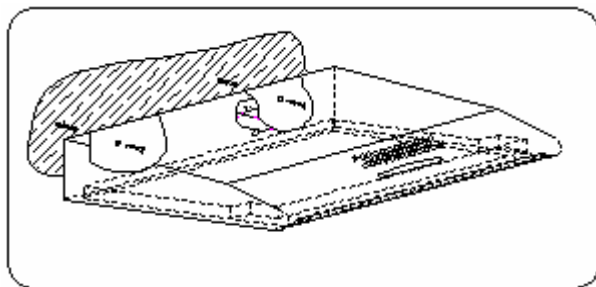

Fig. 3
c) drill the holes as marked on the wall, using drills of diameter corresponding to the attached expansion plugs, drive the plugs in and then screw the hood body „A” to the wall (Fig. 3).